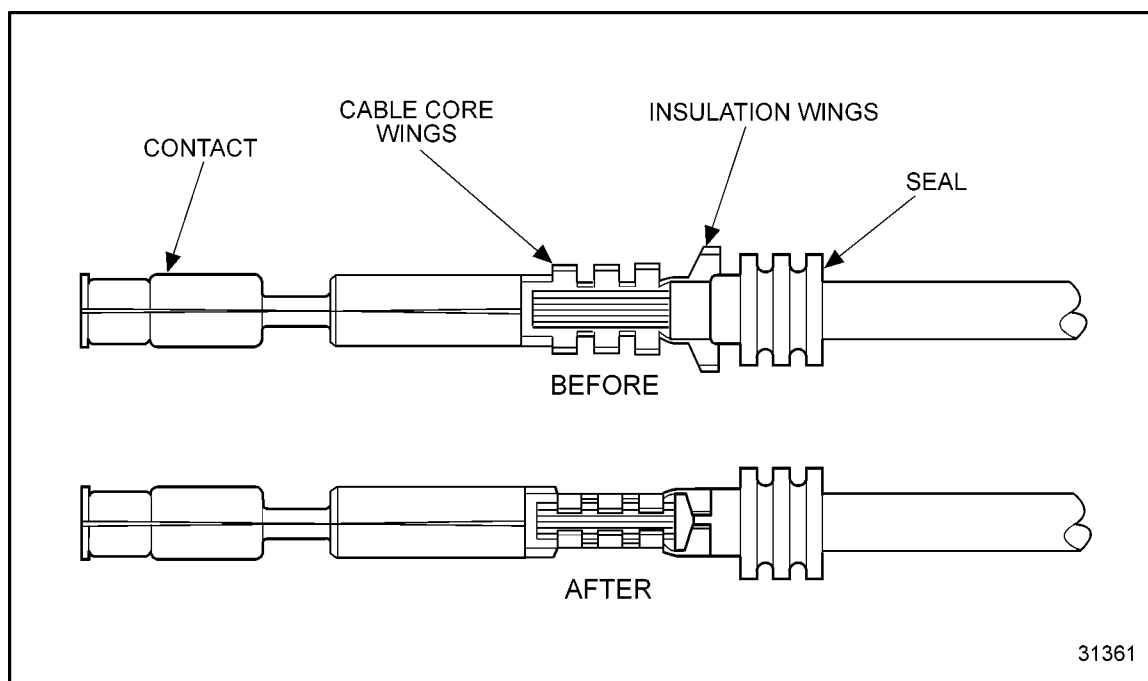
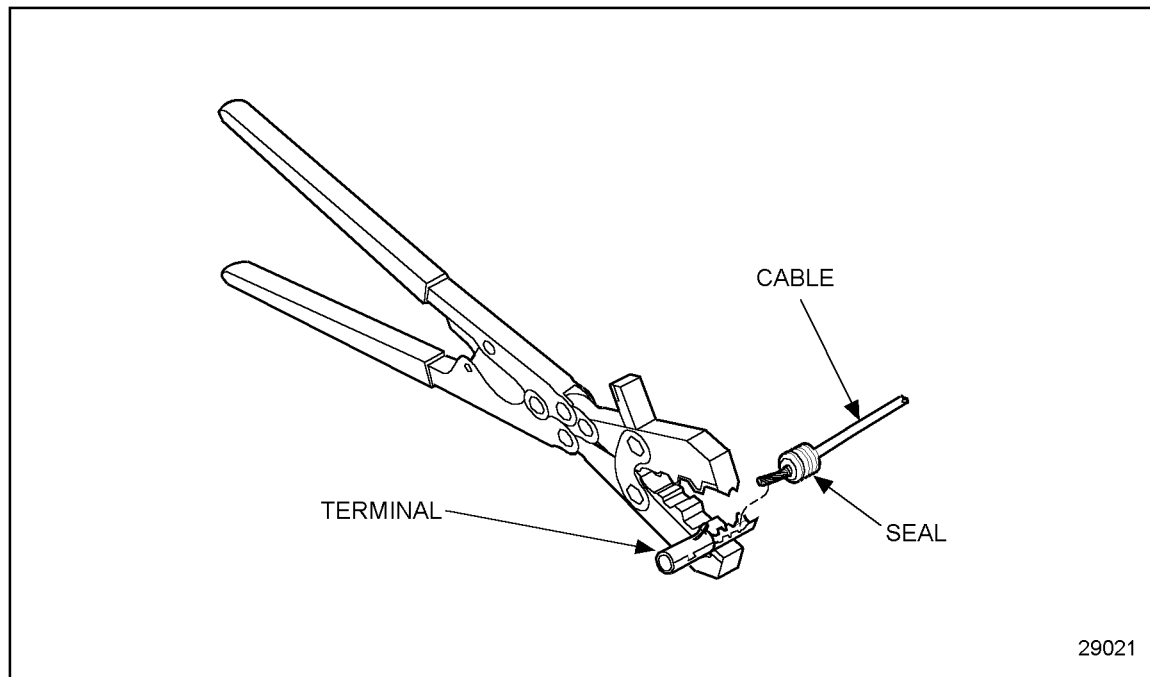

Figure 8-11 **Terminal Installation with Seal**
Figure 8-12 **Terminal Position with Seal**
2. Remove the insulation from the end of the cable with J 35615, or equivalent, exposing 5.0 ± 0.5 mm (0.20 ± 0.02 in.) conductor (wire), a sufficient amount of wire to be crimped by the terminal core wings. See Figure 8-11.
3. Insert the terminal into the locating hole of the crimping tool using the proper hole according to the gage and function of the cable to be used. See Figure 8-12.
4. Insert the cable in the terminal so the stripped portion is positioned in the cable core wings and the insulated portion of the cable is in the insulation wings. See Figure 8-12. Position the seal on the cable so the insulation wings grip the seal. See Figure 8-11.